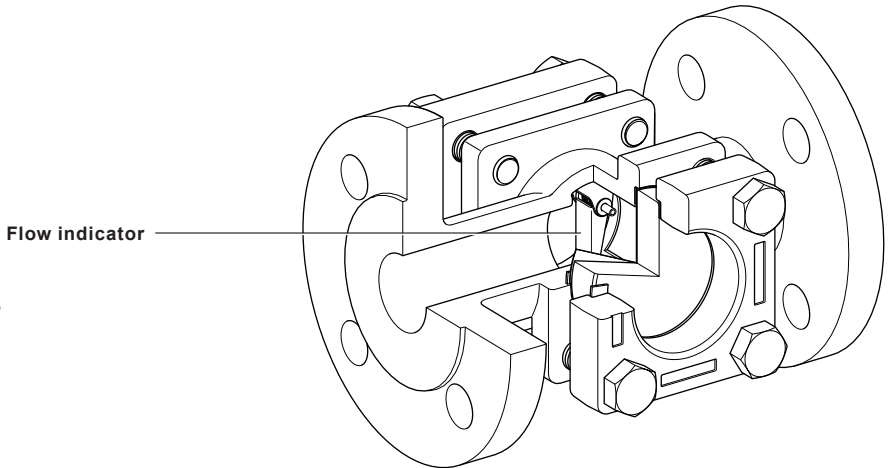

Fig. 3
- After isolation unscrew the cover bolts (5) and remove the old gaskets (4) and windows (3).
- Refit new gaskets and windows, ensuring that a gasket (4) is fitted to either side of each window (3). If Mica protection is changed fit the Mica protection between the glass and the gasket as shown in Fig. 3